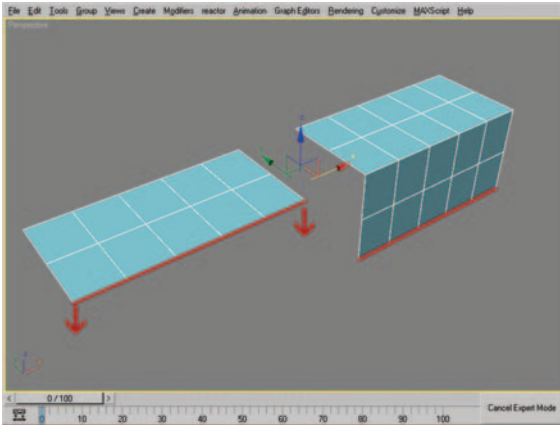

Figure 10.17 Edge selection before and after using shift-drag two times.
3. At the Edge subobject level, select the edges seen in Figure 10.17 (left) and shift-drag them twice on the Z-axis to create the result seen in Figure 10.17 (right).